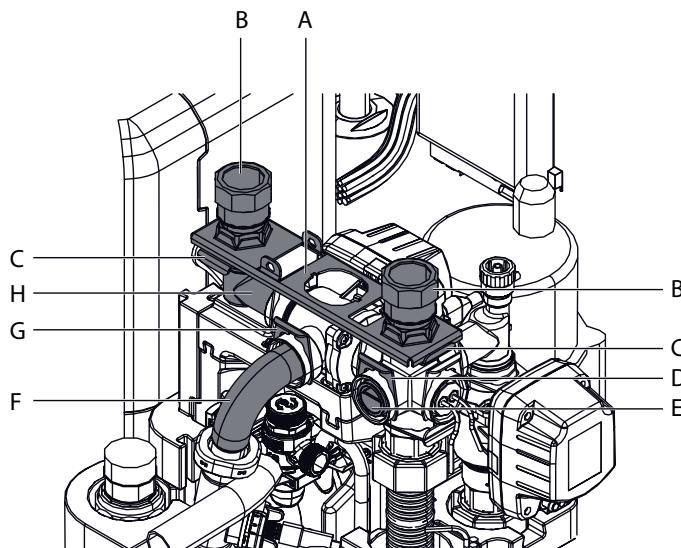
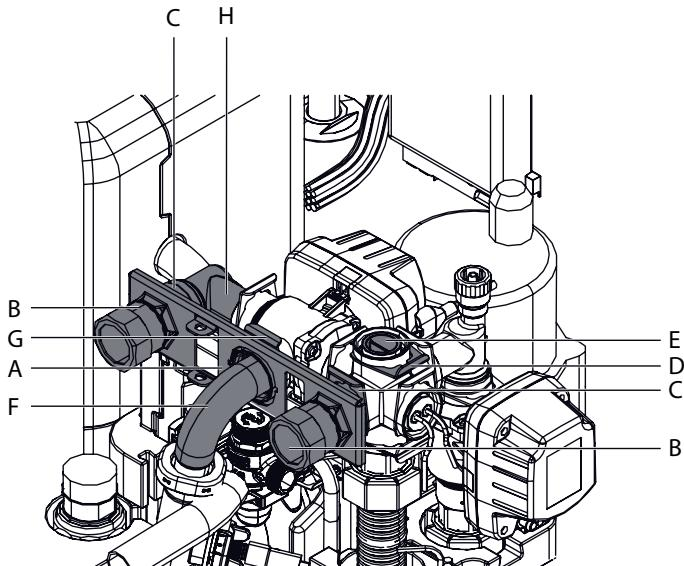

Fig. 4-10 Heating feed and return flow connections aligned upwards
Fig. 4-11 Heating feed and return flow connections aligned to the rear
- Pull off both the plug brackets on the connection couplings (fig. 4-10, item C).
- Pull off both connection couplings (fig. 4-10, item B).
- Remove retainer plate (fig. 4-10, item A).
- Pull off the plug bracket on the closing plug (fig. 4-10, item D).
- Pull out the closing plug (fig. 4-10, item E).
- Rotate the angular piece (fig. 4-10, item H) by 90° to the back.
- Pull off the plug bracket on the elbow (fig. 4-10, item G).
- Pull the elbow (fig. 4-10, item F) carefully to the rear out of its horizontal mount so that the retainer plate (fig. 4-11, item A) can be inserted in the gap vertically.
- Slide the retainer plate between the elbow and its horizontal mount and insert the elbow (fig. 4-11, item F) back in its mount through the central hole in the retainer plate.
- Secure the elbow back into its mount with plug bracket (fig. 4-11, item G).
- Insert both connection couplings (fig. 4-11, item B) through the retainer plate in the side mounts.
- Secure both connection couplings in their mounts with the plug brackets (fig. 4-11, item C).
- Insert the closing plug (fig. 4-11, item E) in the top mount.
- Secure the closing plug with the plug bracket (fig. 4-11, item D).